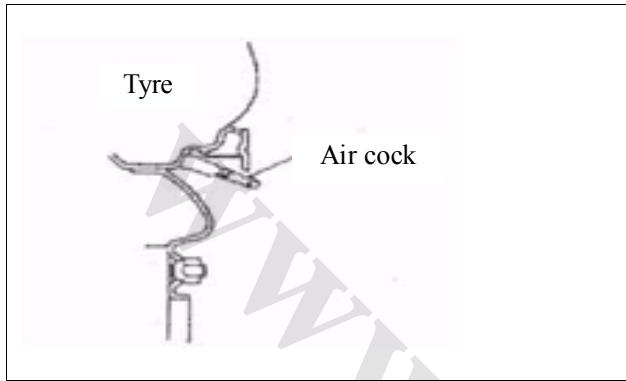

Fig. 326
(2) If the abrasion indication area emerges, replace the tire. (See Fig. 326)